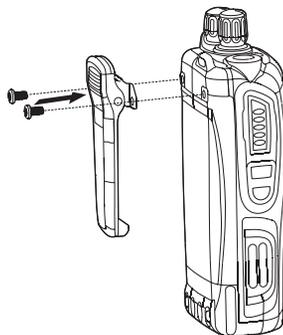

Fig.4
3. Tighten the screws. See figure 4.